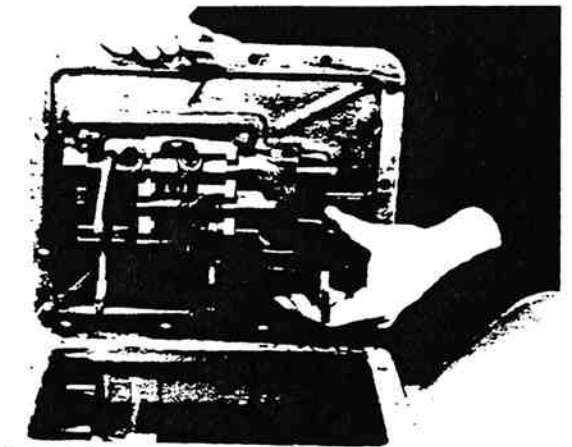

Figure 13-181. Shift Bars in Neutral.
3. Make sure shifting bars in housing are in the neutral position (figure 13-181).